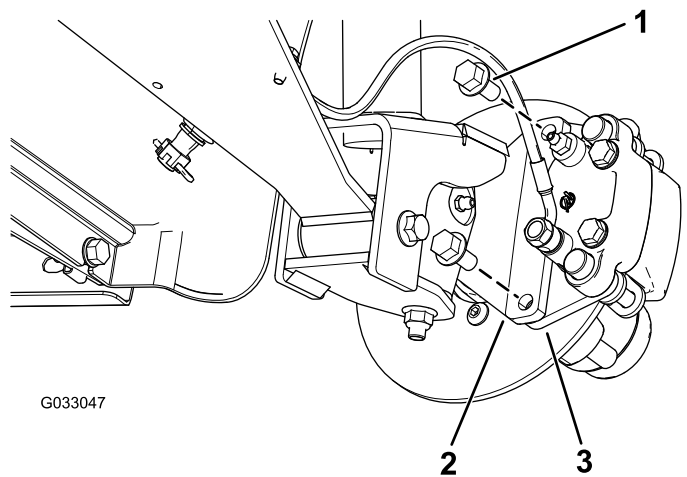

**Figure 29**
2. Remove the 4 lug nuts that secure the wheel to the hub (Figure 29).
4. Align the holes in the wheel to the studs of the hub and assemble the wheel to the hub with the valve stem outward (Figure 29).
5. Secure the wheel to the hub using the lug nuts (Figure 29).